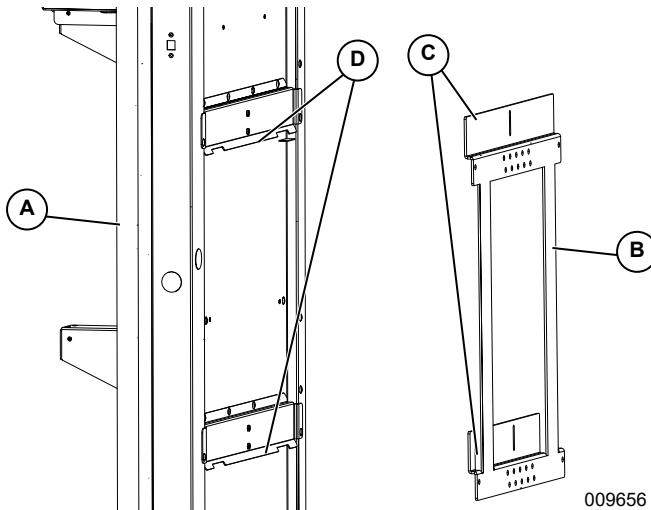

Figure 4-2. Mounting Bracket (1 of 2)
1. See **Figure 4-2**. Lift body (A) onto bracket (B). Keep body tight to the wall while lowering body onto bracket. Verify bracket tabs (C) hook into body pockets (D).